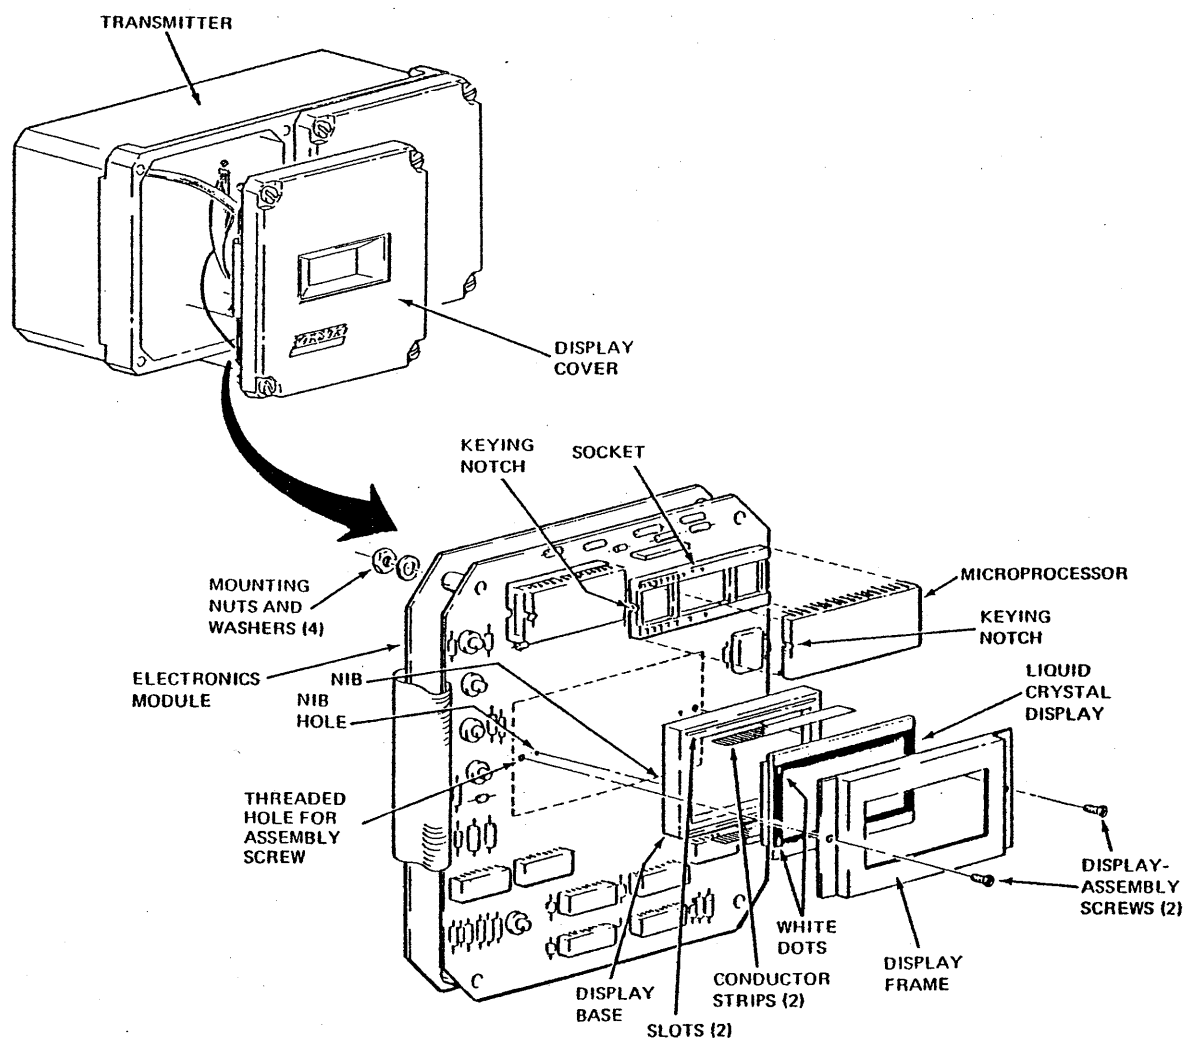

Figure 10. Microprocessor and Display Replacement
The microprocessor is located on the electronics module as shown in Figure 10. To install a new microprocessor, complete the following steps.
2. Refer to Figure 10 and remove display cover from transmitter.
3. Unscrew four mounting nuts from electronics module (shown in Figure 10);
4. To remove old microprocessor, lift it out of its socket. Install new microprocessor so that its keying notch is aligned with keying notch on socket as shown in Figure 10.
The liquid crystal display (LCD) is located on the electronics module as shown in Figure 10. To install a new display, complete the following steps.
3. Unscrew four mounting nuts from electronics module (shown in Figure 10); remove nuts and washers and lift module off display cover.
5. Before installing new LCD, check that two conductor strips are inserted in their slots in display base (see Figure 10). Also check that nibs on the display base are inserted into nib holes in electronics module.
6. Rest LCD in base with white dot on LCD positioned as shown in Figure 10.